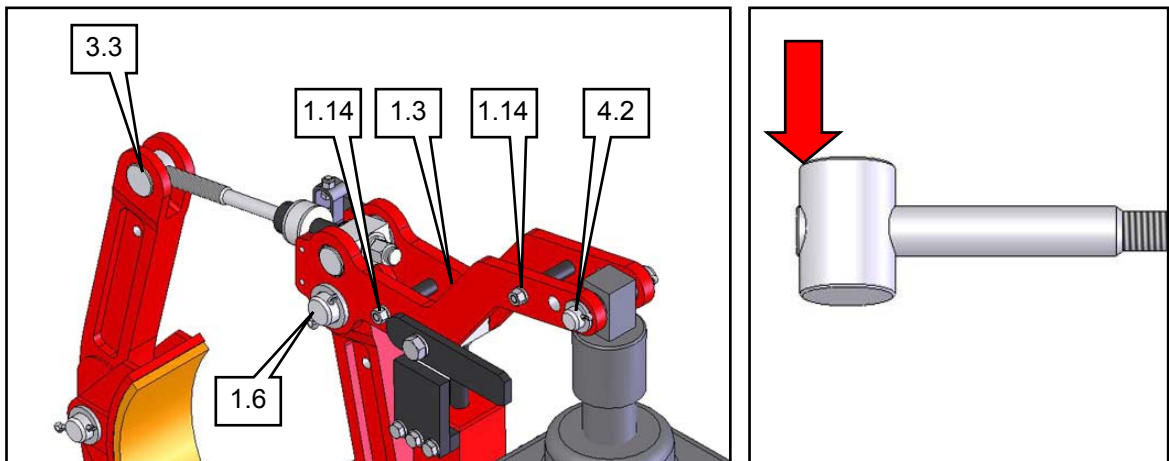

Fig. 14:
- Tip of AWC has to coincide with crosspiece (Fig. 14 right).